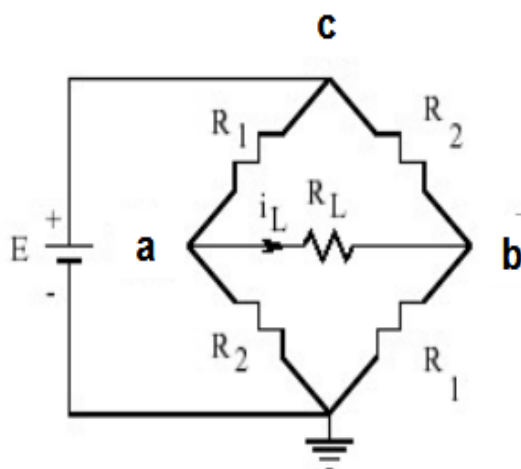

Figure 1.
1. In the circuit in Figure 1:
- a) Find the relationship between the voltages at nodes a and b (V_a and V_b) and the source voltage (E) without assigning any values to the resistors.
2. In the circuit shown in Figure 1, using the resistor values given in preliminary study 1b, find the Thevenin and Norton equivalent circuits seen from nodes a and b for $E = 12 \text{ V}$ (the equivalent circuits will not include the load resistance R_L). Using the obtained equivalent circuits, calculate the current i_L .